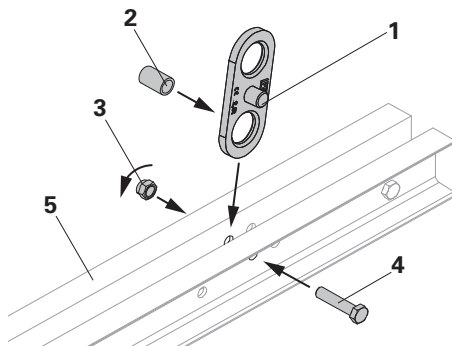
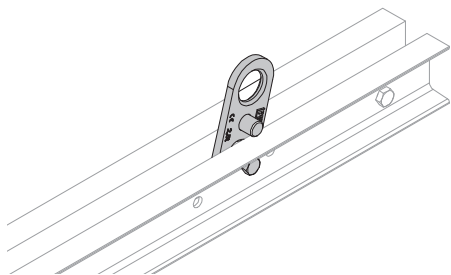

Fig. 6
Fig. 7
1. Insert Spacer Tube (2) through the bottom hole of the Crane Eye BR-2 2.5 t (1). (Fig. 6)
2. Position the Crane Eye BR-2 2.5 t (1) together with the Spacer Tube in the Platform Beam BR (5).
3. Insert the bolt (4) through the Platform Beam BR (5) and secure it on the opposite side by means of the nut (3). (Fig. 7+8)